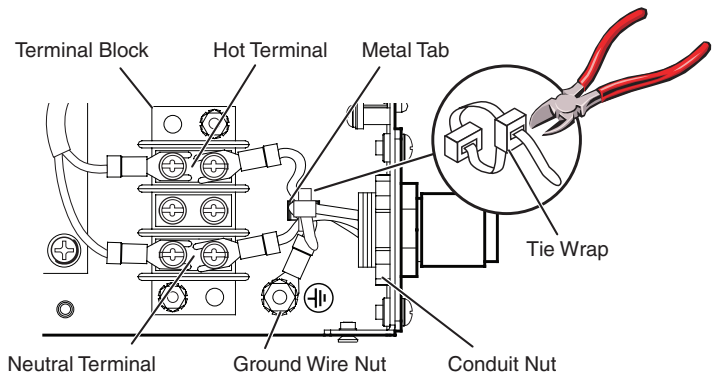

Figure 7 — Terminal block and conduit wiring
10. Slide the **conduit nut** (figure 7, below) over the bundle of wires exiting the conduit and onto the conduit itself *inside* the PS 124. Hand-tighten the nut.
WARNING *Ensure wire polarity is observed. Figure 7 shows the location of the neutral and hot terminals on the terminal block. The conduit wiring harness neutral wire is identified with a tag marked "N" (neutral).*
14. Tighten the conduit nut (figure 7 above) to ensure it firmly secures the conduit to the EMT adapter plate.